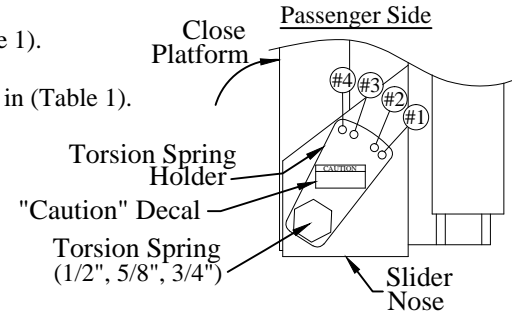
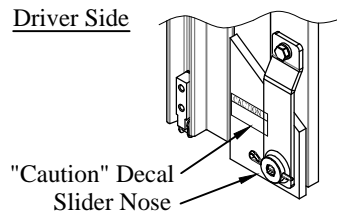

Figure 8: Torsion spring positioning.
Figure 9: Caution decal location.
16. **ADHERE** the two supplied "Caution" decals as shown in (Figure 8) and (Figure 9).